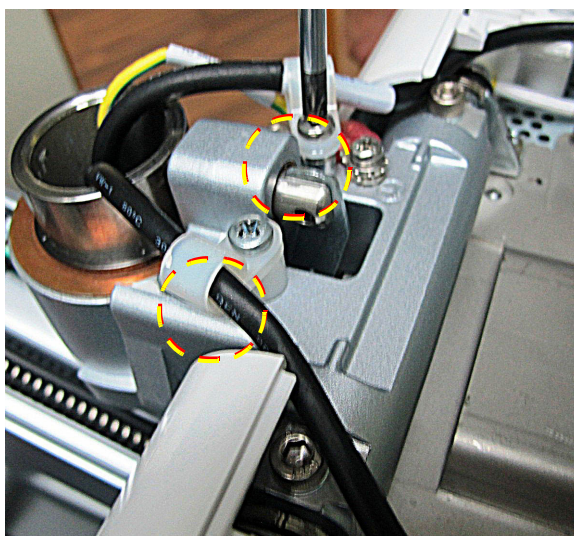

Figure 8-100 Cable Holders Located on Articulated Arm
3.) Unscrew the two cable holders as shown in Figure 8-100 below.